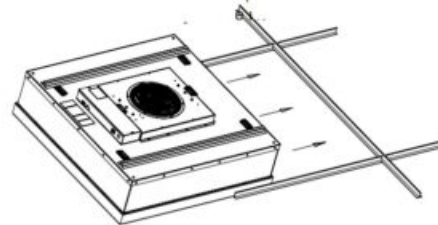

Figure 3: Front Load Option
Step 2.1. It is recommended that you front load your MAC 10 4x4 to your T-Grid system by running your main T-Grid and two cross Ts (install fan box into grid), then running your main T again (see Figure 3).